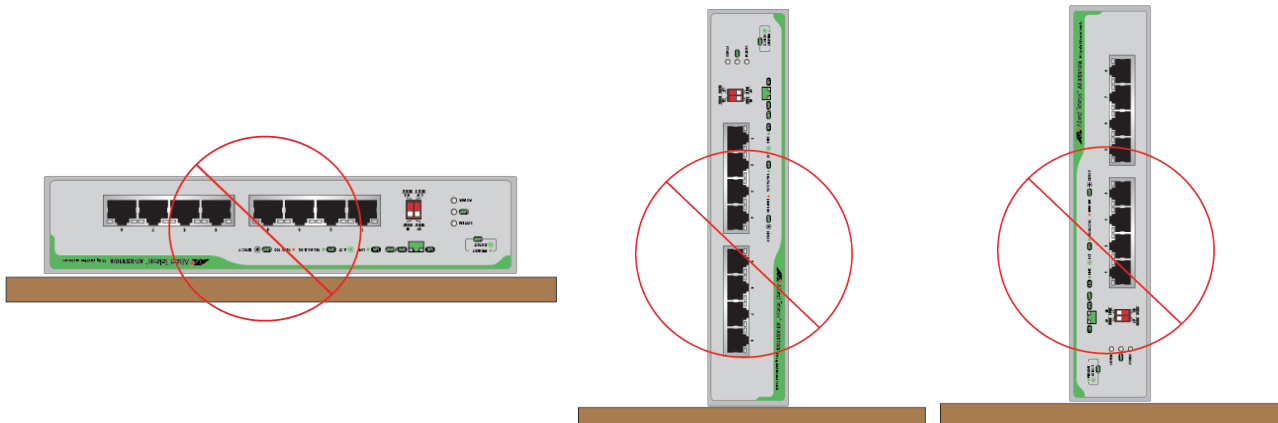

Figure 11. Incorrect Table or Desktop Orientation
- ❑ Figure 11 shows incorrect orientations.